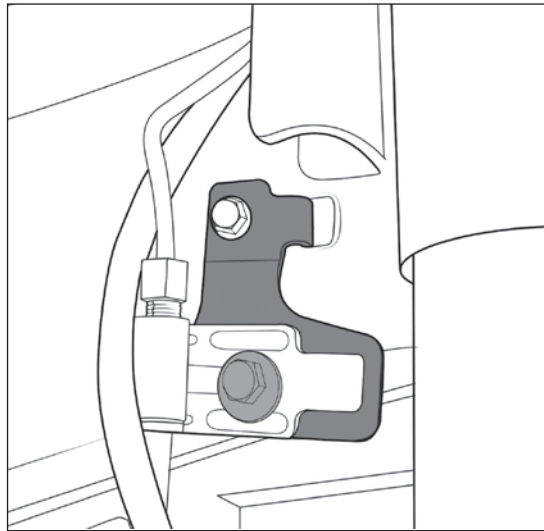

Figure 32
26. For **2007–2010** model year JK's install the front brake line drop brackets tightening to 8 ft-lbs (Fig. 32).